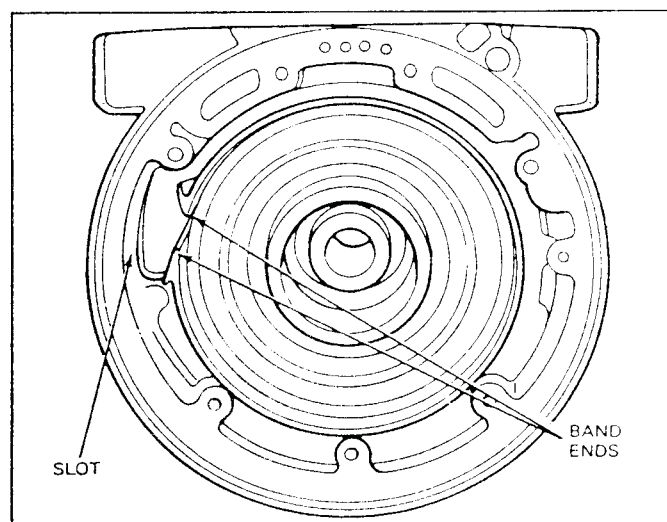

FIG. 20 Removing or Installing Band
10. Rotate the band 90 degrees counterclockwise to align the ends with the slot in the case (Fig. 20). Slide the band off the reverse-high clutch drum.